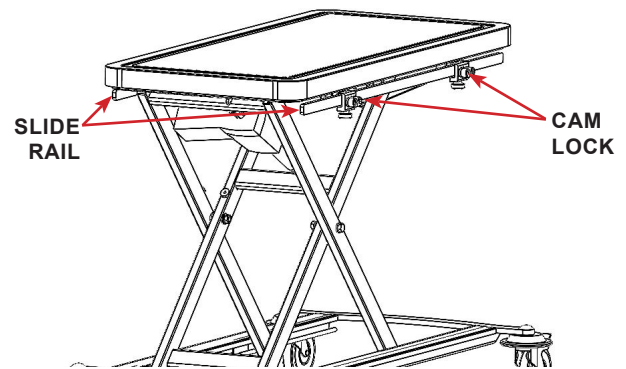

FIGURE 3.2 - Safety Ties System
STEP 7: Press the RECALL button (03). Display will flash the current weight.
STEP 8: Press the FREE/LOCK button (04). Display will flash the last amount used to calibrate the scale.
STEP 9: Enter the weight amount to be used for calibration (example: 20 lb weight), use the FREE/LOCK button (04) to select the digit and the LIGHT button (05) to edit the digit. See FIGURE 3.2